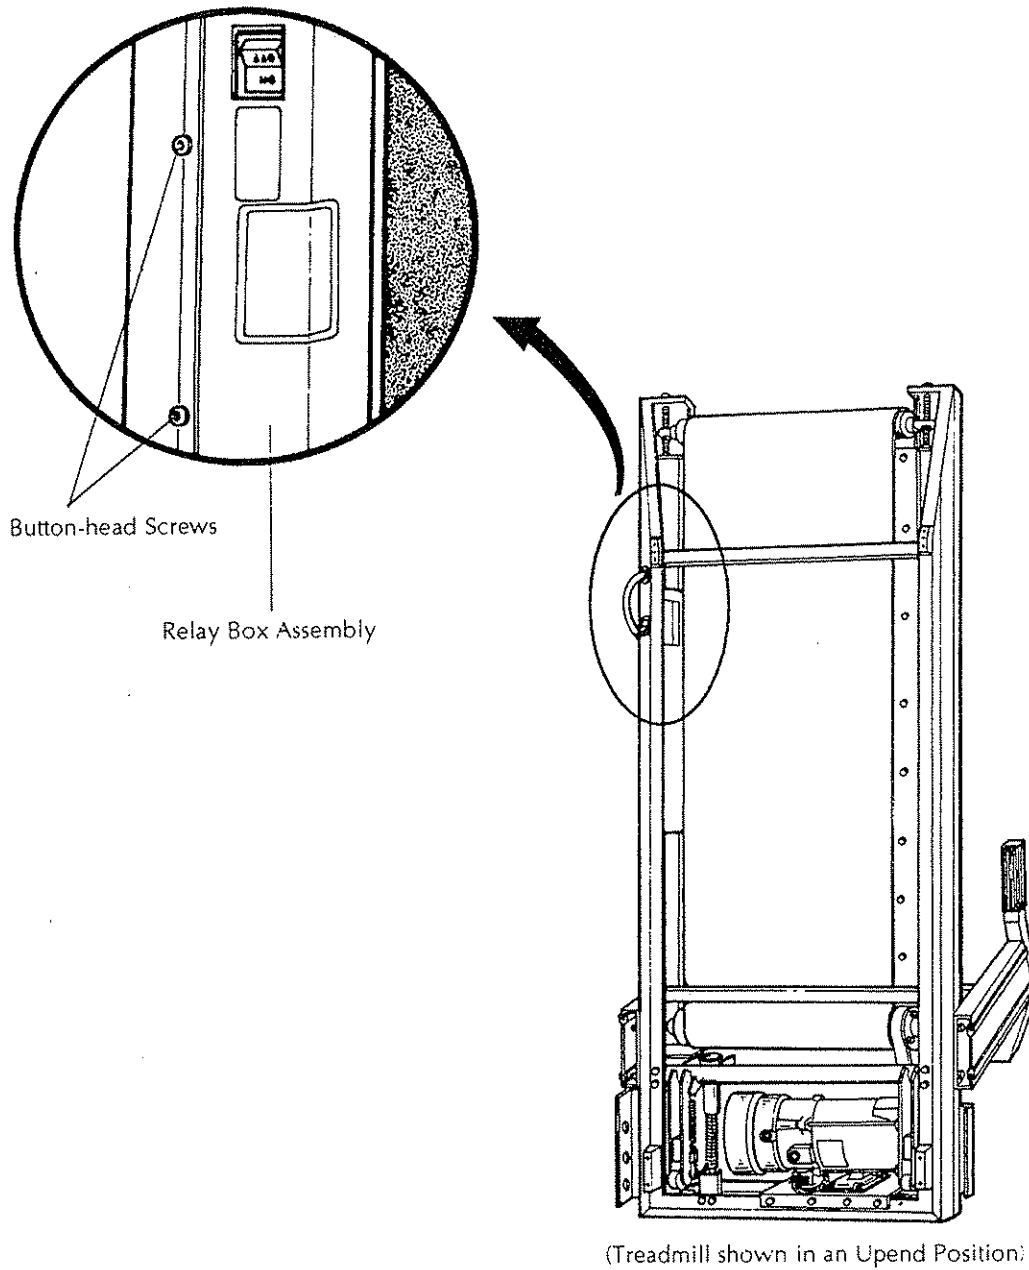

Figure 5-2: Removing the Relay Box Assembly
2. Lift the rear of the treadmill and stand it on its front end. The display console should be resting on the floor in this position. See Figure 5-2.
3. Support the relay box assembly with one hand. With the other hand loosen and remove the two Button-head screws securing the relay box to the treadmill's chassis. See Figure 5-2.
4. Maneuver the relay box assembly out of the treadmill's chassis. Position the relay box as close to the treadmill as its cables will allow. See Figure 5-2.